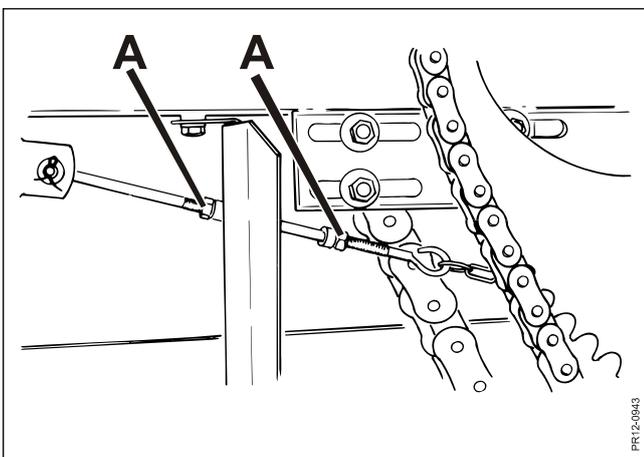

Fig. 9.5
**Fig. 9.5** of the spring is 1,5 – 2 mm. Do not forget to tighten the 2 counternuts after adjustment of the turnbuckle.